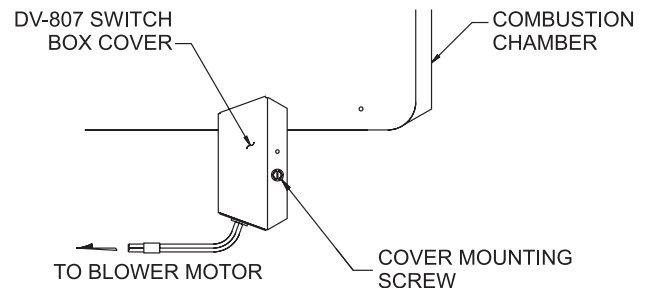

Figure 10
9. Attach switch box cover to the switch box by using the #8 x 1/4" (6mm) hex-head screw. **See Figure 10.**